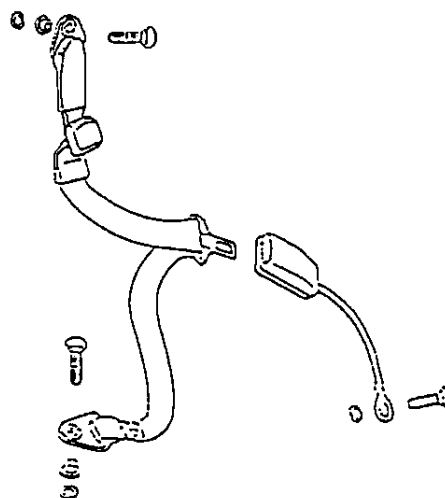

FIGURE 3
1. Assemble stalk buckle as shown in figure 3.
2. Assemble adjuster end of lap sash as shown in figure 3.
3. Assemble lower anchor of lap sash as shown in figure 3.